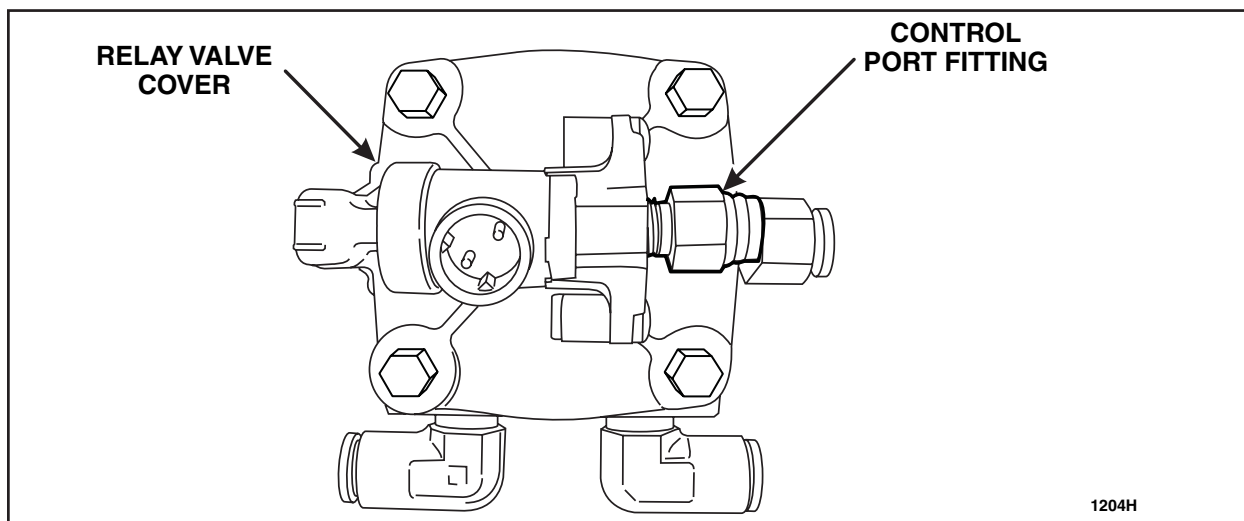

FIGURE 6
8. Remove the control port fitting from the relay valve cover. See Figure 6.
Install the control port fitting onto the *new* relay valve cover. See Figure 6.